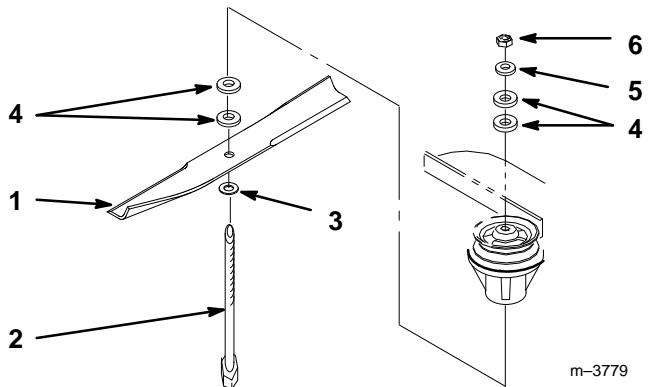

Figure 32
Hold the blade bolt with a wrench. Remove the nut, blade bolt, cone washer, blade, spacers and thin washer from the spindle (Fig. 32).
1. Place the blade onto the bolt, over cone washer. Select proper number of spacer(s) for height-of-cut and slide bolt into spindle (Fig. 32).
2. Install remaining spacer(s) and secure with thin washer and nut (Fig. 32).